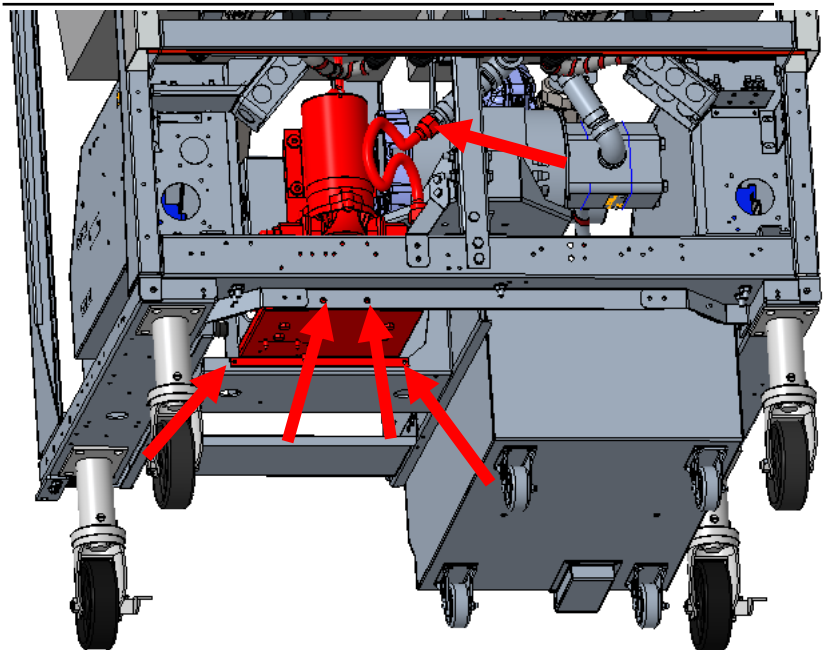

Fig 4
5. Disconnect ATO flex line from ATO check valve at the return manifold (Fig 4).